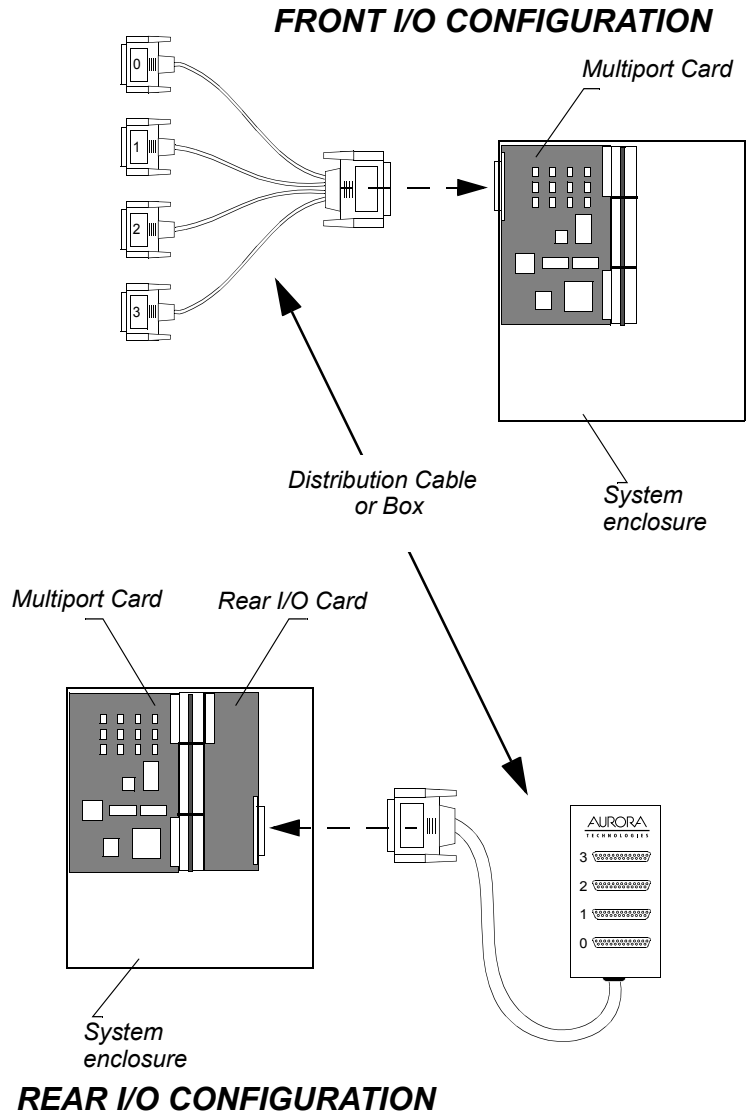

FIGURE 1. Connecting Vanguard Card to the Distribution Cable (or breakout box)
4. Connect the distribution cable or box to the multiport card or rear I/O card, as applicable. See Figure 1 on page 6